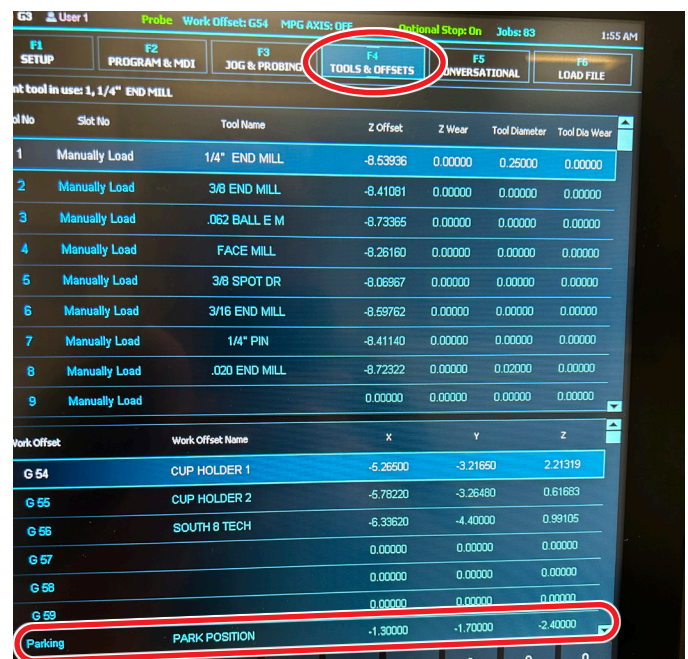
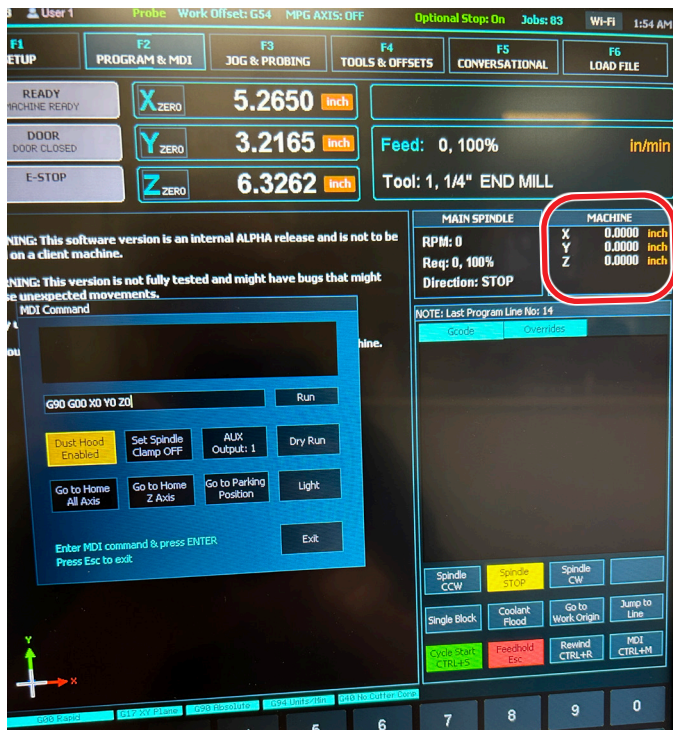

FIGURE 3—Park Position.
FIGURE 4—See the red outline for Machine axes positions.
3. You can also set up a “Park Position” by moving your axis to a clearance position. Then write down the actual “Machine Position” for each axis (see Figure 4). Then enter these axis positions on the F4 screen. Double-tap the “Parking” line and enter the axis positions (see Figure 3).